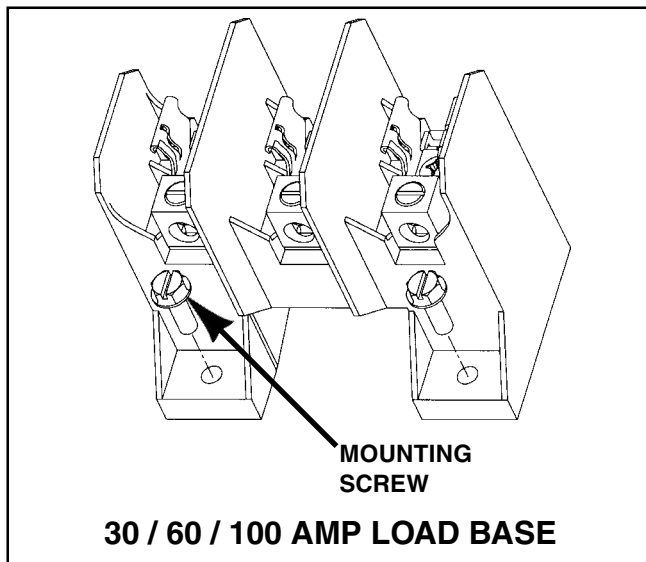

Fig. 1
5. Remove the two mounting screws and Load Base. See Fig. 1.
6. Position replacement Load Base at appropriate fuse position. See Figs. 1 and 2.